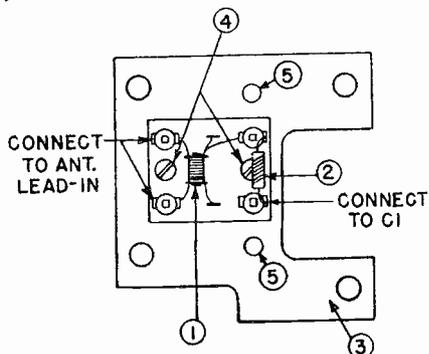
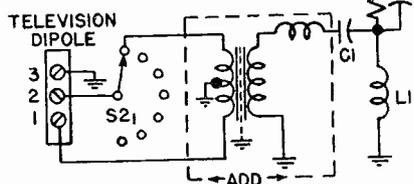

FIGURE 1
FIGURE 3
3. Remove green wire and 1.0-megohm resistor R175 from BC and SW external antenna terminal board, and discard parts. The green lead is end of lead removed in step (1).
5. Assemble transformer (1) Stock No. RLA-033 to mounting plate (3), Stock No. RAP-008, using two #4-40 x 5/16" screws, nuts, and lockwashers. Solder choke (2), Stock No. RLI-037, as shown in schematic, Figure 3, and mechanically mount as shown in Figure 1. Also, fasten the two brass ground straps, removed in step (2), to the holes (5) shown in Figure 1, using two #4-40 x 5/16" screws, nuts, and lockwashers.
7. Solder C1 to choke as shown in Figures 1 and 3.
8. Re-connect antenna input transmission line to terminals as shown in Figure 1.